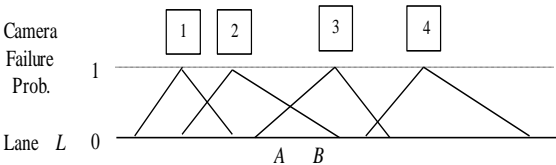

Fig. 1. Temperature membership diagram. (10pt, below the figure, center)
Figures, tables, and equations should be numbered consequently. Place figure captions below the figures, and place table titles above the tables. Figure and table captions should be centered, as in Fig. 1 and Table 1. Large figures and tables may span both columns. For figure axis labels, please use words rather than symbols. Do not label axes only with units. Figure and Tables should be legible. Please use Microsoft Equation Editor for equations in your paper, and mark the subscripts and superscripts clearly. Number equations consequently with equation numbers in parentheses flush with the right margin, as in (1). (10pt)